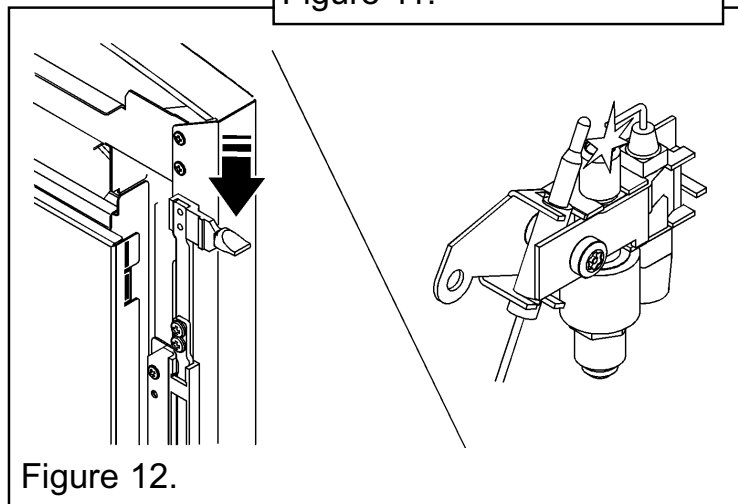

Figure 12.
- Depress the slider control knob as far as it will go. This should close the ignition circuit. Sparks should be seen tracking from the electrode pin to the pilot tip (See figure 12).
2. Depress the control knob as far as it will go and hold in this position (See section 7, figure 12). This should close the ignition circuit and (now that the gas is connected) simultaneously open the gas tap allowing the gas to flow to the pilot. Wait a few seconds while the air is purged. The electronically generated sparks should light the pilot and the burner. There may be a delay of up to four seconds between the pilot lighting and ignition of the gas at the main burner. This is normal and is due to the time required to fill the main burner compartment with sufficient gas for ignition. Keep at this position for a further 10 seconds to allow the pilot flame to stabilise.